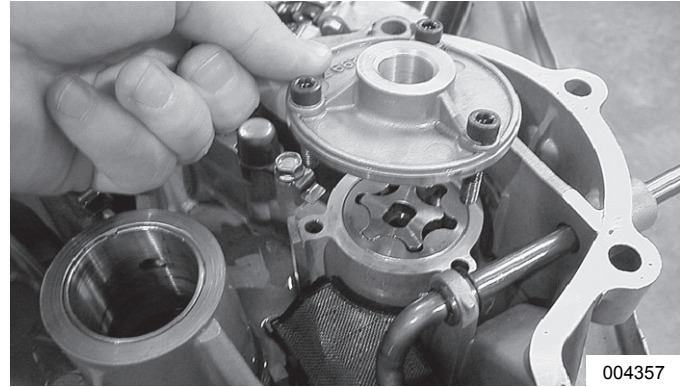
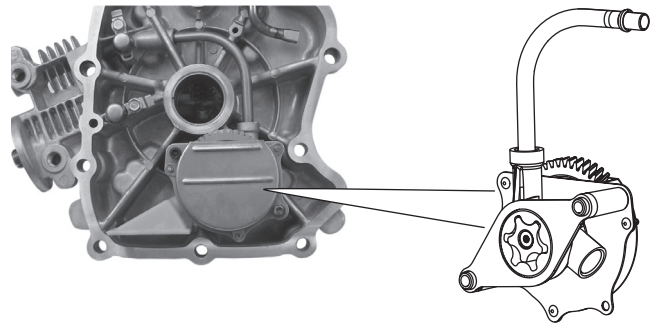

Figure 10-5. Remove Oil Pump (Vertical Shaft Engine)
Figure 10-6. Remove Oil Pump (Horizontal Shaft Engine)
10. See Figure 10-5 or Figure 10-6. Remove oil pump from crankcase cover/sump.